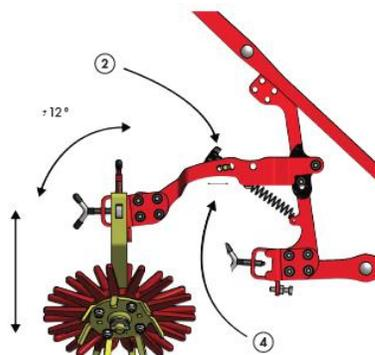

Figure 3. Adjusting the tension and position of the spring.
2. Adjust the tension in the spring by turning the knob. See figure 3.
4. Adjust the position of the spring. See figure 3.